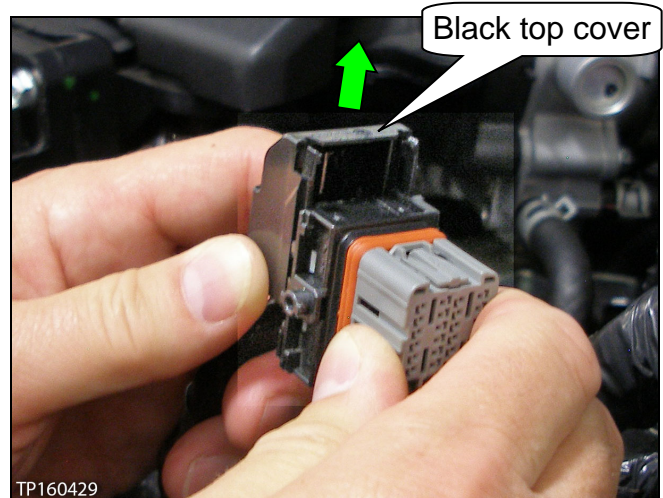

Figure 6
- b. Slide the black top cover off the connector (see Figure 6).